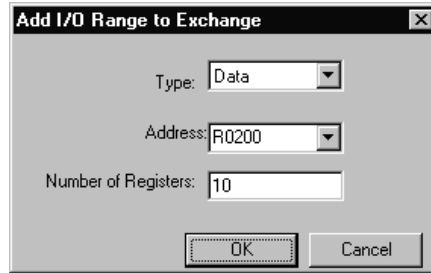

Figure 6.19 – Consumed Exchange 1 Data Block Definition – Node 2
5. Click on the **Add Range** button, in the EGD Configuration dialog, to define a Data Block for Consumed Exchange 1. Then fill in the parameters, as shown in Figure 6.19 below, and click **OK**.